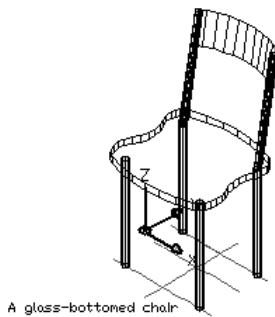

**Figure 21-21:** The completed glass-bottomed chair.
23. Save your drawing. The chair should look like Figure 21-21.